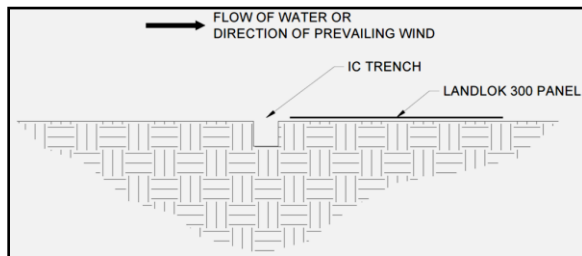
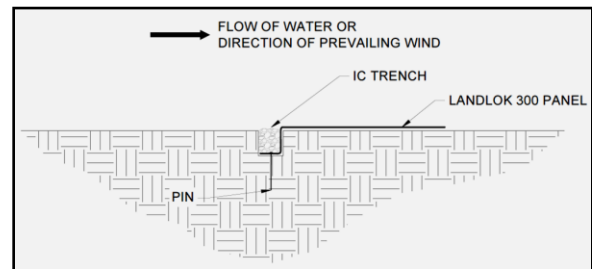
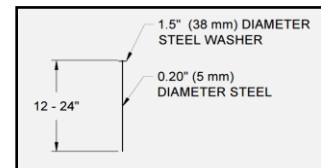

Figure 4: Initial Channel (IC) Trench Alignment
Figure 5: Initial Channel (IC) Trench Placement
Figure 6: Securing Pin
2. Lay the Landlok 300 panel on the downstream side of the IC trench (Figure 4). Place the panel edge in the IC trench, ensuring full coverage along the bottom of the entire IC trench with the Landlok 300 (Figure 5).
3. Secure Landlok 300 with pins in the IC trench (Figure 5). Pins should be made of steel with a 0.20 in (5 mm) minimum diameter, having a 1.5 in (38mm) diameter washer at the head, and a length between 12 and 24 in (300-600 mm) with sufficient ground penetration to resist pullout (Figure 6). Longer pins may be required for looser soils. Heavier metal stakes may be required in rocky soils. Suggested placement of pins for the IC trench is along the bottom of the trench with pins on 12 in (300 mm).
4. Backfill and compact the IC trench (Figure 5).